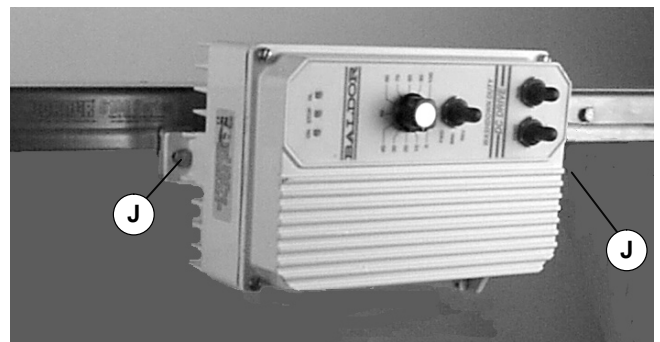

Figure 4
3. Secure controller to clips with M6 x 16 stainless steel hex head cap screws (J of Figure 4) as shown.